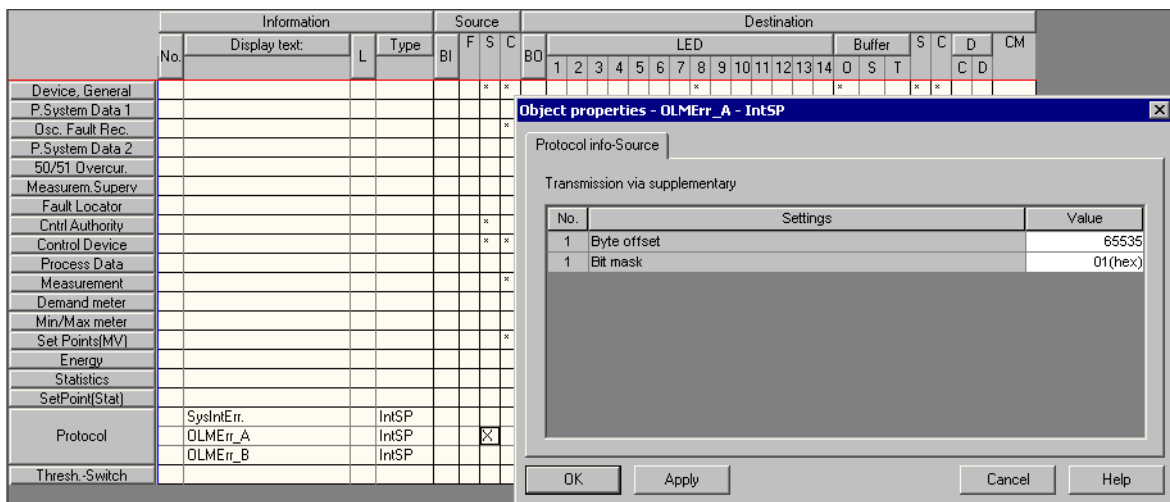

Figure 2-1 Routing of the OLM status indications in DIGSI
1. Insert two user-defined taggings (Internal single-point indications) in the **DIGSI Configuration matrix** (ref. to Figure 2-1).